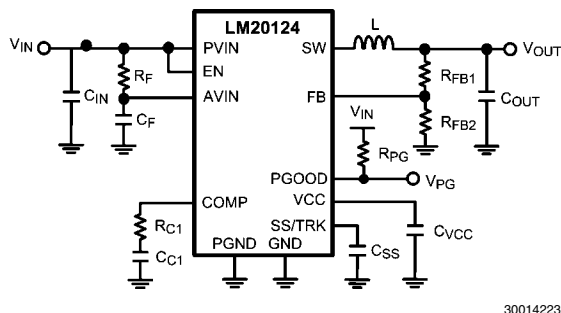

FIGURE 2. Typical Application Circuit
The LM20124 switching regulator features all of the functions necessary to implement an efficient low voltage buck regulator using a minimum number of external components. This easy to use regulator features two integrated switches and is capable of supplying up to 4A of continuous output current. The regulator utilizes peak current mode control with nonlinear slope compensation to optimize stability and transient response over the entire output voltage range. Peak current mode control also provides inherent line feed-forward, cycle-by-cycle current limiting and easy loop compensation. The fixed 1 MHz operating frequency minimizes the inductor size while still achieving efficiencies up to 96%. The precision internal voltage reference allows the output to be set as low as 0.8V. Fault protection features include: current limiting, thermal shutdown, over voltage protection, and shutdown capability. The device is available in the eTSSOP-16 package featuring an exposed pad to aid thermal dissipation. The LM20124 can be used in numerous applications to efficiently step-down from a 5V or 3.3V bus. The typical application circuit for the LM20124 is shown in *Figure 2* in the design guide.
This section walks the designer through the steps necessary to select the external components to build a fully functional power supply. As with any DC-DC converter numerous trade-offs are possible to optimize the design for efficiency, size, or performance. These will be taken into account and highlighted throughout this discussion. To facilitate component selection discussions the circuit shown in *Figure 2* below may be used as a reference. Unless otherwise indicated all formulas assume units of amps (A) for current, farads (F) for capacitance, henries (H) for inductance and volts (V) for voltages.
pins, a high frequency RC filter is required between PVIN and AVIN. These components are shown in *Figure 2*. as C_F and R_F . The required value for R_F is 1Ω. C_F must be used. Recommended value of C_F is 1.0 μF. The filter capacitor, C_F should be placed as close to the IC as possible with a direct connection from AVIN to AGND. A good quality X5R or X7R ceramic capacitor should be used for C_F .